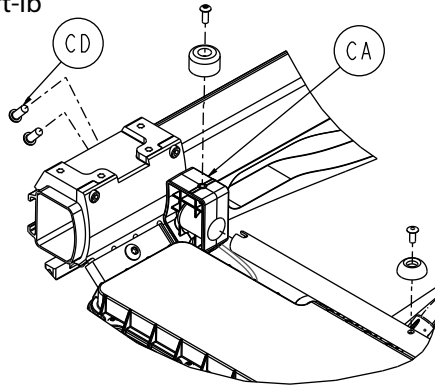

Figure 91 – Remove the Gatch bumper housing
7. Using a T27 Torx driver, remove the two button head cap screws (CD) that secure the Gatch bumper housing (CA) to the hitch bracket (Figure 91). Remove and save the Gatch bumper housing. Save the screws. Repeat on the other side.